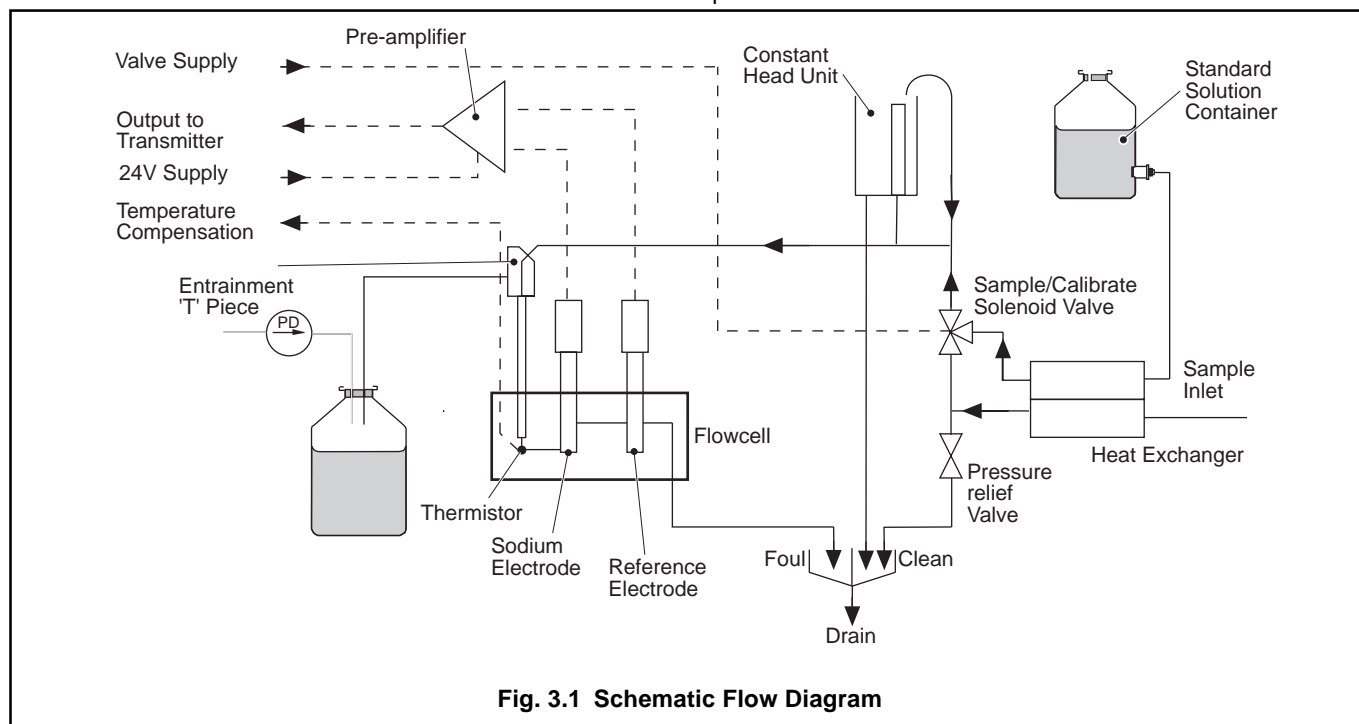
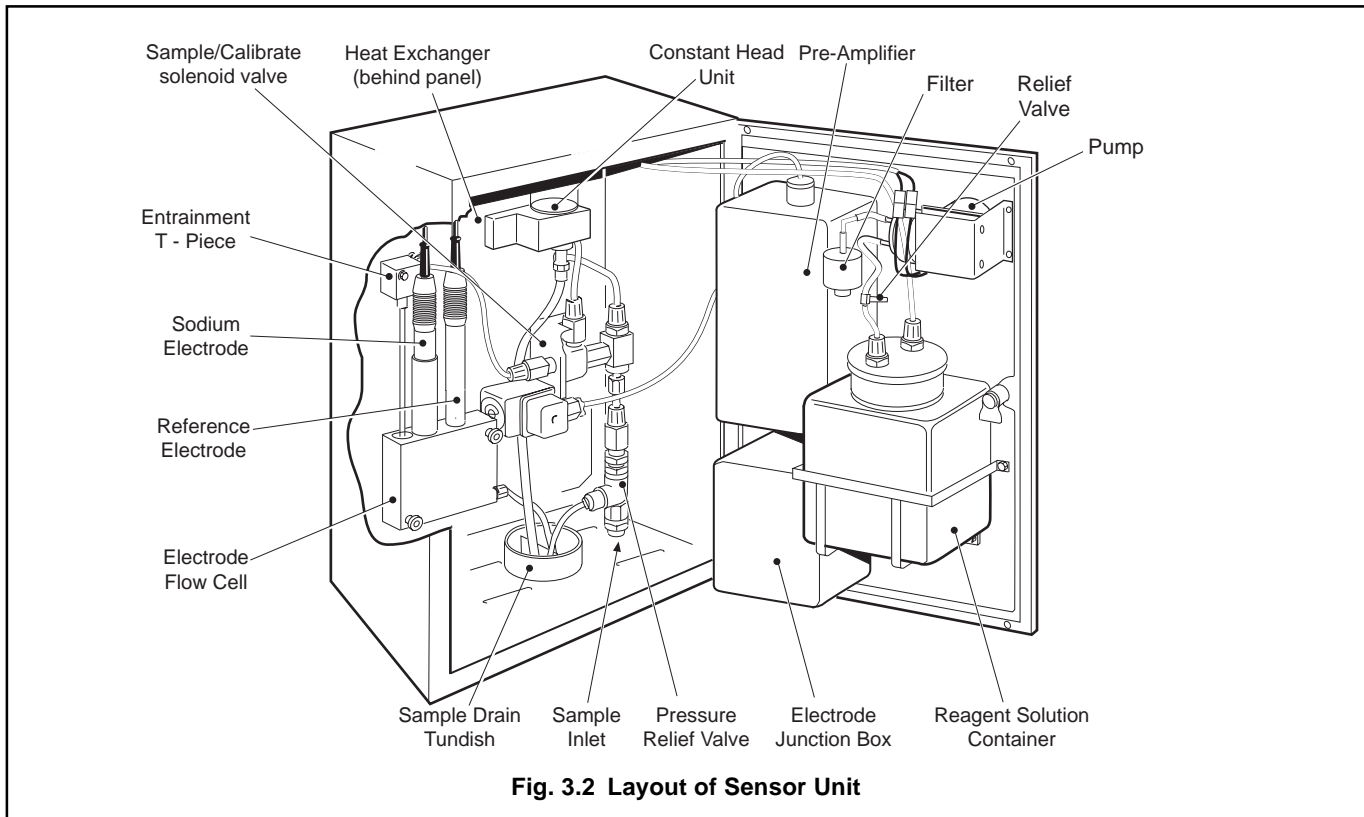

Fig. 3.1 Schematic Flow Diagram
Fig. 3.2 Layout of Sensor Unit
3.1 Sensor Unit (Fig. 3.1 and 3.2)
A flow schematic is shown in Fig. 3.1 and the physical layout of the unit is shown in Fig. 3.2.